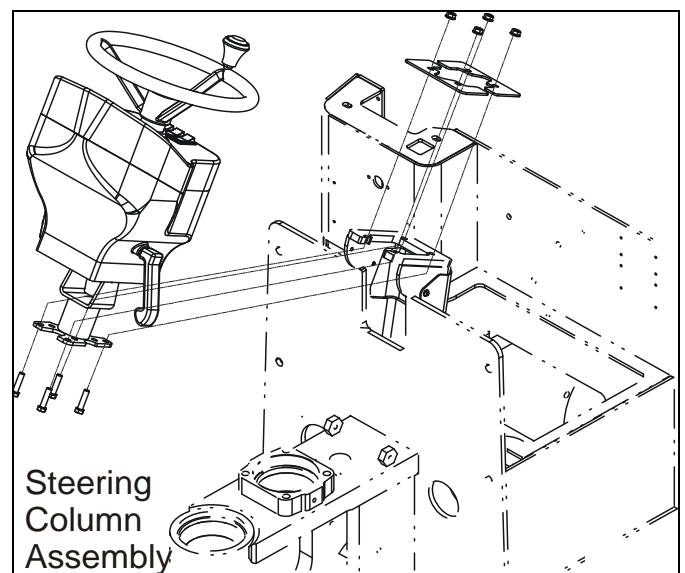

Figure 4-5 Steering Column Removal
7. Remove the four bolts and hardware securing the steering column console to the bellows retainer plate. (See Figure 4-5)